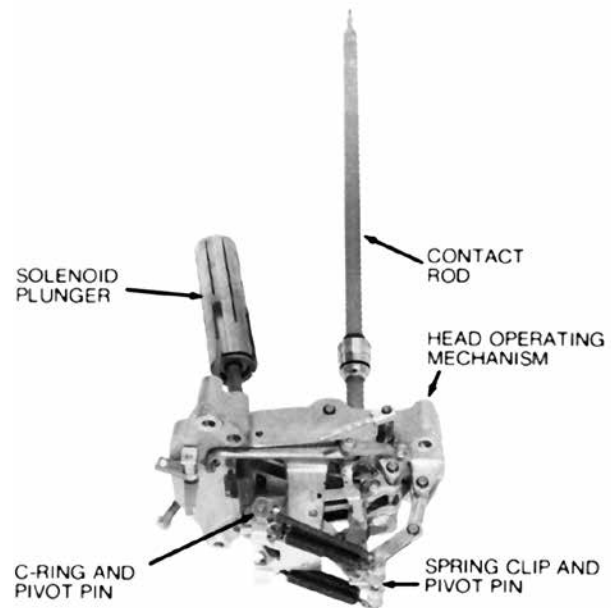

Figure 40. Removing solenoid plunger and contact rod
6. Remove the C-ring (Figure 40) and pull pivot pin that secures the solenoid plunger to the operating mechanism. Then pull off the spring clip and remove the pivot pin that secures the contact rod. The trip rod is removed by removing the E-ring on the head casting side of the rod (Figure 25).